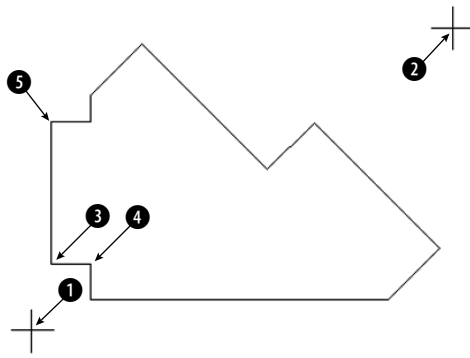

Figure 16-39: An unfolded sheet-metal template.
2. Save the file as **ab16-09.dwg** in your AutoCAD Bible folder. This is a sheet metal template as shown in Figure 16-39.
3. Make a photocopy of Figure 16-39 and tape it to the active area of your digitizer.
Digitize point #1: Pick ❶ in Figure 16-39.
Digitize point #2: Pick ❷ in Figure 16-39.
7. In Figure 16-39, pick ❸ with the digitizer, then ❹, and then each line endpoint in turn counterclockwise around the figure.
8. After you reach ❺, do not digitize point ❶ again. Instead, type **c** ↵ to close the figure exactly.